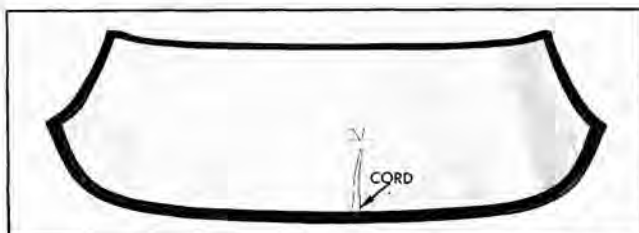

Fig. 12-15 Windshield Installation
4. Insert a strong cord in pinchweld cavity of rubber channel completely around windshield. Tie ends of cord and tape to inside surface of glass at bottom center of glass. (Fig. 12-15).